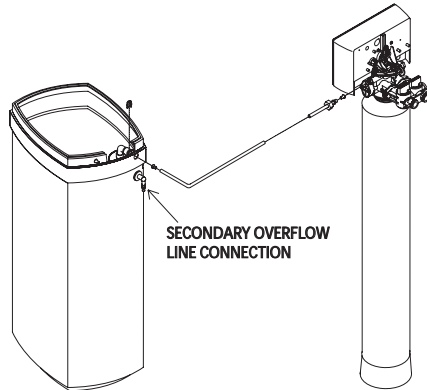

Figure 7
- Slide the brass compression nut over the end of the brine line, followed by the ferrule and tube support. Attach the brine line to the brass fitting on the right side of the valve (see figure 7).
- Insert a tube support into the other end of the brine line and push the brine line into the brine safety float elbow. Use a locking clip to secure the connection (see figure 7).
- Run a 1/2 inch I.D. brine overflow line from the overflow elbow on the side of the brink tank to an approved drain (see figure 7).